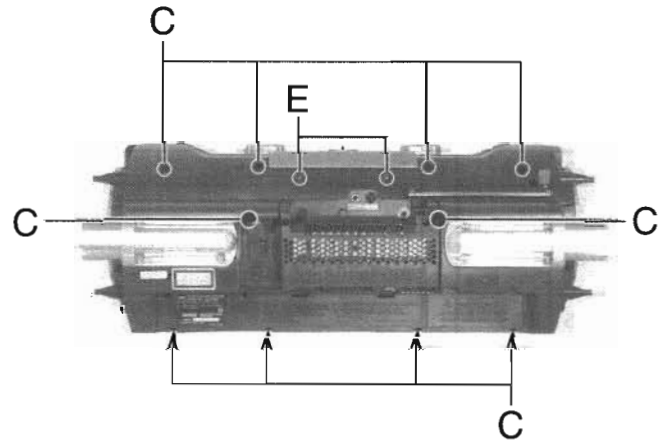

Fig.3
3. Remove the 10 screws C holding the rear side panel. (up side 4 screws, center 2 screws, down side 4 screws) (See Fig 3)
■ CD mechanism ass'y removal (See Fig.3, 4)
4. Remove the 2 screws E of rear side holding the CD mechanism ass'y (See Fig.3)